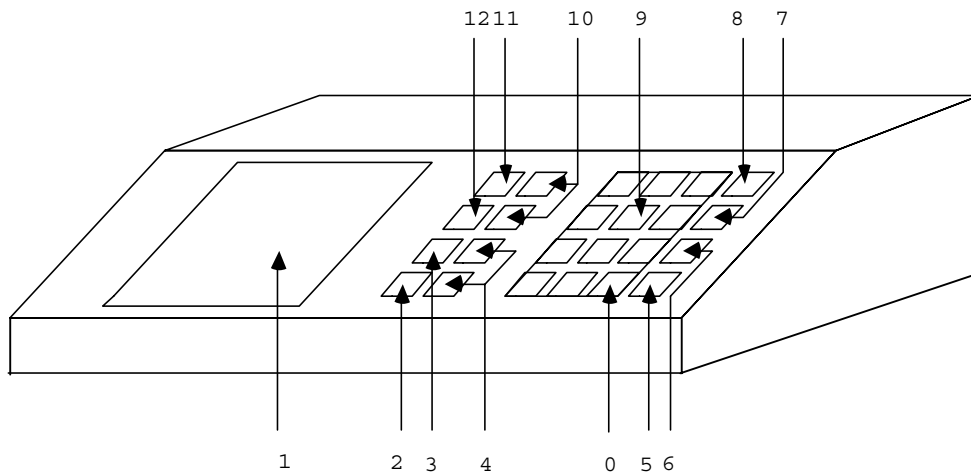

Fig. 1
- The second function is represented on the lower part of each key. To obtain this function, press simultaneously the “shift”-key  (5 on figure 1) and the desired key.
- The third function is the alphabetical entry. To select alphabetical / numerical entry, use the “alpha”-key  (8 on figure 1). The LED on the key will light to indicate the alphabetical mode. To return to numerical mode, press the “alpha”-key once again. The "shift"-key can be used in alphabetical as well as in numerical mode.
The keys   (10 on figure 1) allow you to move up or down, line by line during edition or in the menus. During display of statistics of a characteristic, they allow you to move from one screen to another.
The keys   (4 on figure 1) allow you to move up or down, page by page, during edition. During display of statistics, they allow you to move from one characteristic to another.
The key  (11 on figure 1) erases a value to allow its modification.
The key  (12 on figure 1) erases one by one the characters on the line of entry.
The command  (7 on figure 1) enables the printout of measurements and statistics on a printer.
The command  (6 on figure 1) enables the transfer of results by the serial interface.
The key  (2 on figure 1) enables the measurement reading. If dynamic measurement has been defined in the setup, a red LED will light, to indicate dynamic measurement in progress.